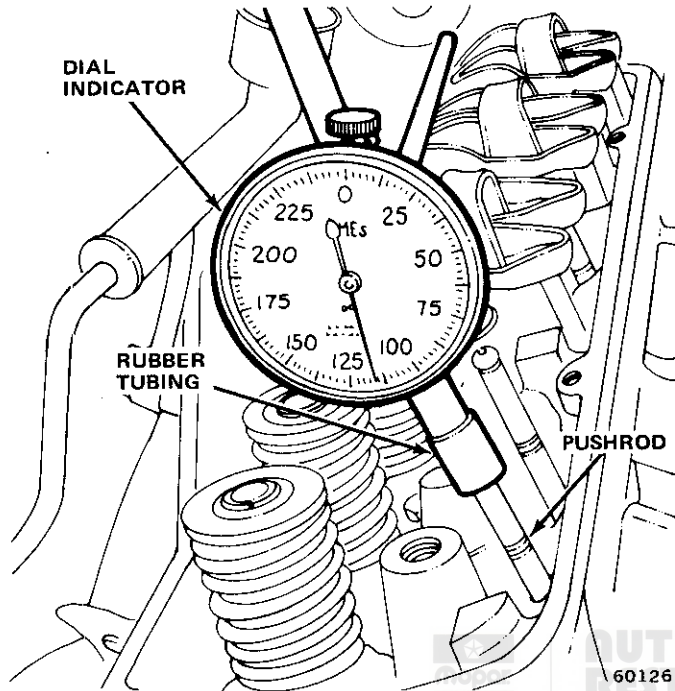

Fig. 1B-70 Cam Lobe Lift Measurement
- (1) Remove cylinder head cover and gasket.
- (2) Remove rocker arms and bridged pivot assemblies. Alternately loosen capscrews one turn at a time to avoid damaging bridge.
- (3) Remove spark plugs.
- (4) Use piece of rubber tubing to secure dial indicator on end of push rod (fig. 1B-70).